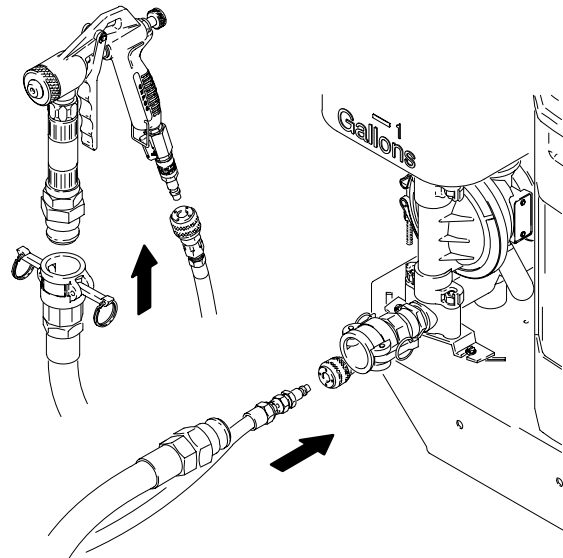

Fig. 6
1. Connect the hoses and gun as shown See Fig. 6.